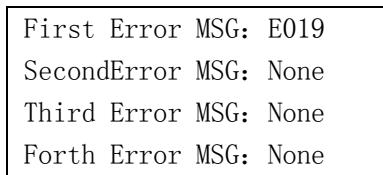

Fig3-10
6. Enter the "ErrorDis" interface in the main menu to view the 4 historical faults that have occurred, shown as Figure 3-10.